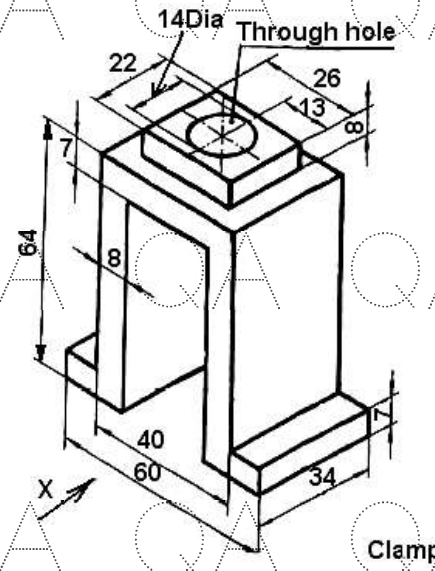

Figure 2
10. Draw the front view, top view, and right side view for the part shown in following figure 2. All dimensions are in mm. [15]